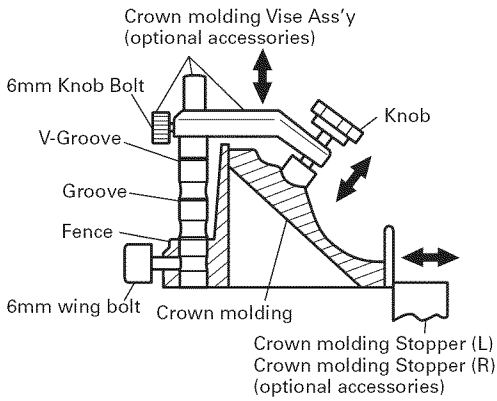

Fig. 46-b
- (1) Crown molding Stopper (L) and (R) (optional accessories) allow easier cuts of crown molding without tilting the saw blade. Install them in the base both-sides side to be shown in Fig. 46-a. After inserting Tighten the 6mm knob bolts to secure the crown molding Stoppers.
Then turn the upper knob, as necessary, to securely attach the crown molding in position. To raise or lower the vise assembly, first loosen the 6mm knob bolt. As shown in Fig. 46-b, the vise shaft has three locking grooves into which the tip of the 6mm wing bolt is designed to fit in order to lock the screw holder in the desired position.
After adjusting the height, firmly tighten the 6mm wing bolt; then turn the upper knob, as necessary, to securely attach the the crown molding in position. (see Fig. 46-b)
Position crown molding with its WALL CONTACT EDGE against the guide fence and its CEILING CONTACT EDGE against the crown molding Stoppers as shown in Fig. 46-b.